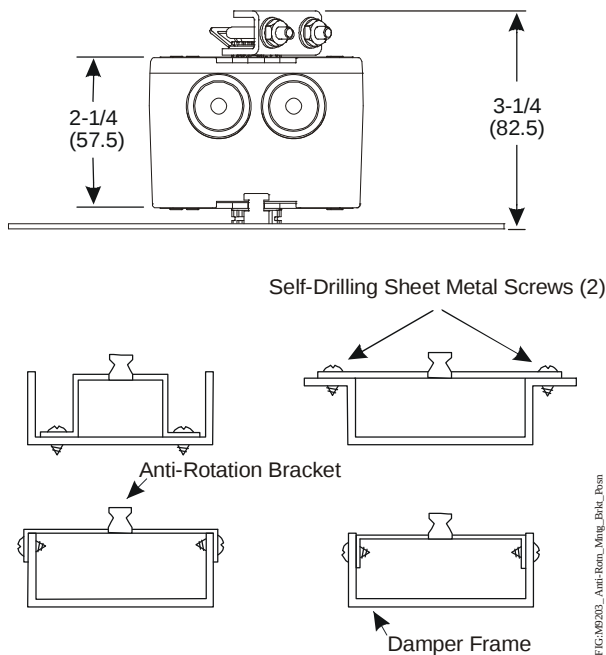

Figure 6: Anti-Rotation Mounting Bracket Positions
- Bend or cut the anti-rotation bracket to fit the damper frame or duct as illustrated in Figure 6.
- Slide the actuator onto the damper shaft, and position the anti-rotation bracket tab into the slot at the bottom of the actuator as illustrated in Figure 6.